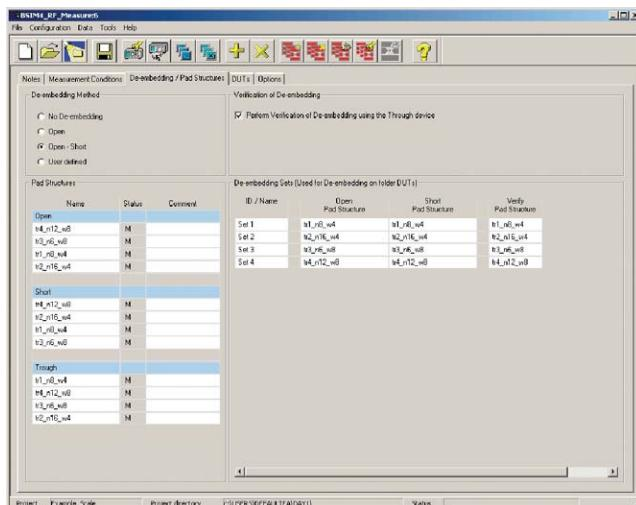

Figure 3: RF Measurement user interface for easy de-embedding or removing of parasitic.
1. Calibrate the system very well to remove all DC and RF losses up to the tip of the probes (this is your new reference plane) as shown in Figure 3. Through direct interface with Cascade Microtech's probe stations, Agilent modeling systems can be well calibrated by Cascade's automatic WinCal software using proprietary LRRM calibration techniques.
2. De-embed the parasitic due to pads and interconnects that surround the device to get the true measurement of the device-under-test such as a MOSFET transistor. The BSIM4 toolkit (shown in Figure 3) guides you through the two-step de-embedding method with Open-Short, and verifies the data with Through. Your S-parameter measurement data should be thoroughly de-embedded from the surrounding parasitic, and the data can be used for very accurate RF model extraction.